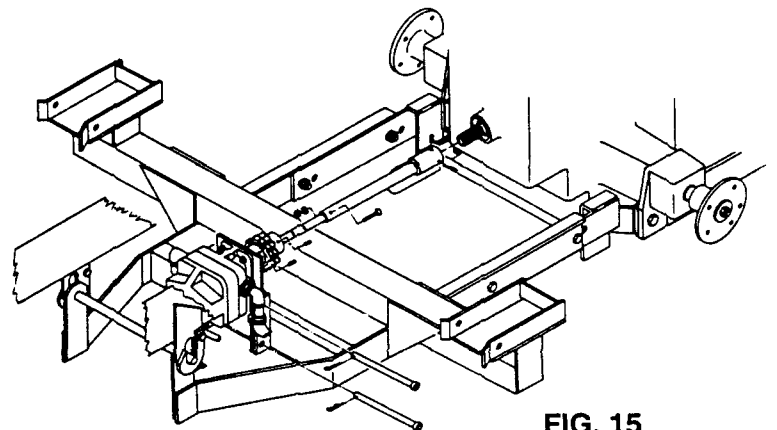

FIG. 15
- You have now removed all of the loader except the sub-frame. Unless required for other attachments there is no need to remove the sub-frame. (See Fig. 15).